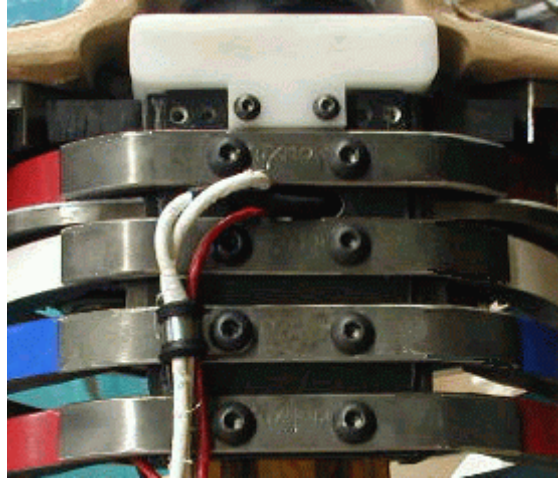

Figure 7.7- Lower neck instrumentation cables
5. Pass instrumentation cables from lower neck load cell and the neck tilt sensor through hole in rear of upper thoracic spine weldment, as shown in **Figure 7.7**. Mount the neck to the spine as described in Section 5.2.4- Attaching the Neck to the Spine.
9. Position Elliptical Rib #3 (T1TXM330) and Elliptical Rib Stiffener #3 (T1TXM012) on the back of the upper thoracic spine weldment. With a 1/4" wire clamp and one of the two 5/16-24 x 1/2" BHSCS-NP {3/16} used to secure the rib to the back of the upper thoracic spine weldment, strain relieve the lower neck load cell wires and the neck tilt sensor wire to the back of the Elliptical Rib Stiffener #3 as shown in **Figure 7.7**. Use the other bolt to fully secure the Elliptical Rib #3 to the back of the spine.